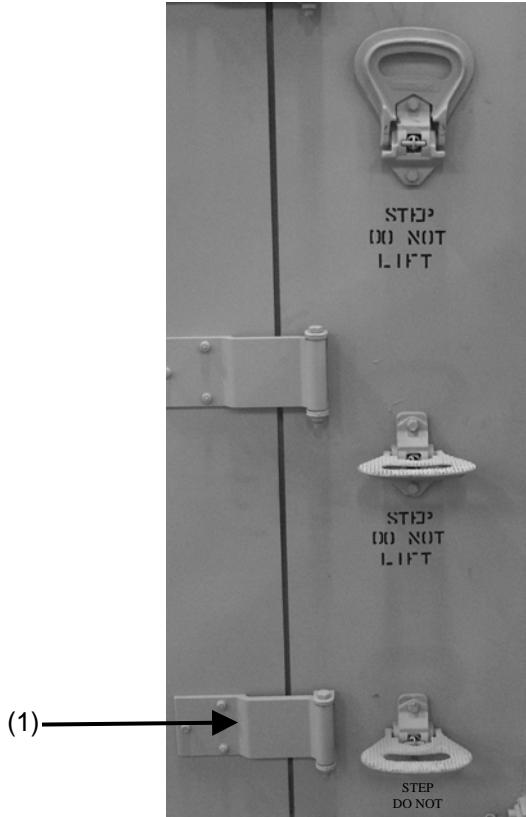

Figure 4-56. Main door hinges and utility steps.
1. Install and align replacement door with hinge strap (1) (Fig. 4-56) on hinge butt and secure with hinge pin, nut, and washers previously removed. After all four hinge pins are installed, tighten nuts.